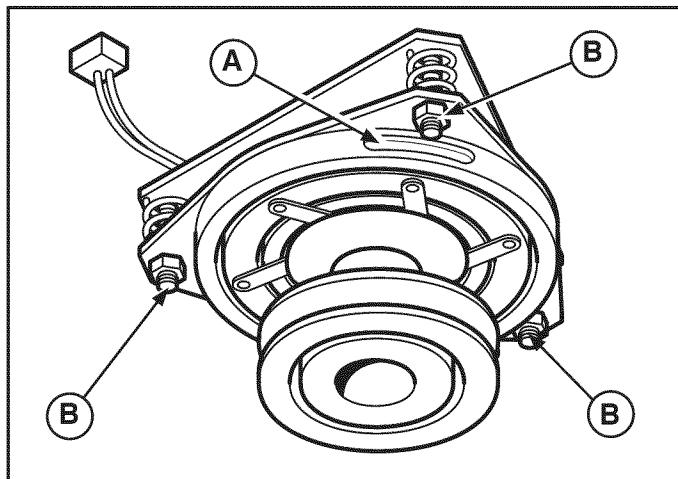

Figure 26
2. Note the position of the 3 adjustment windows (**A**, Figure 26) in the side of the brake plate and the nylon adjustment nuts (**B**).
4. Alternately tighten the adjustment nuts (**B**, Figure 26) until the rotor face and armature face just contacts the gauge.